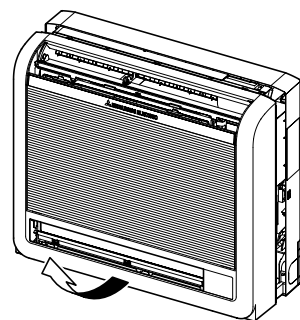

Fig. 3-4
- 4) Lift up the front grille to remove it. (Fig. 3-4)